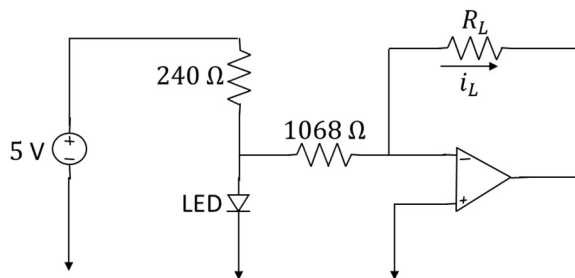

Figure 3. Constant current source.
All semester, we have been talking about current sources. We will now see how to make one. In this part, we consider a simple constant current source. Consider the circuit shown in Figure 3 below. Assume as usual that the op amp is ideal. Assume the power rails are set to ± 5 V. The left portion of the circuit uses the positive power rail, a $240\ \Omega$ resistor, and an LED to create a roughly constant input voltage (2.1 V) to the op amp circuit on the right. We could use a voltage source for this, but in the lab, we will already be using both channels of the power supply for $\pm V_{cc}$.
a) Calculate the load current i_L in Figure 3.